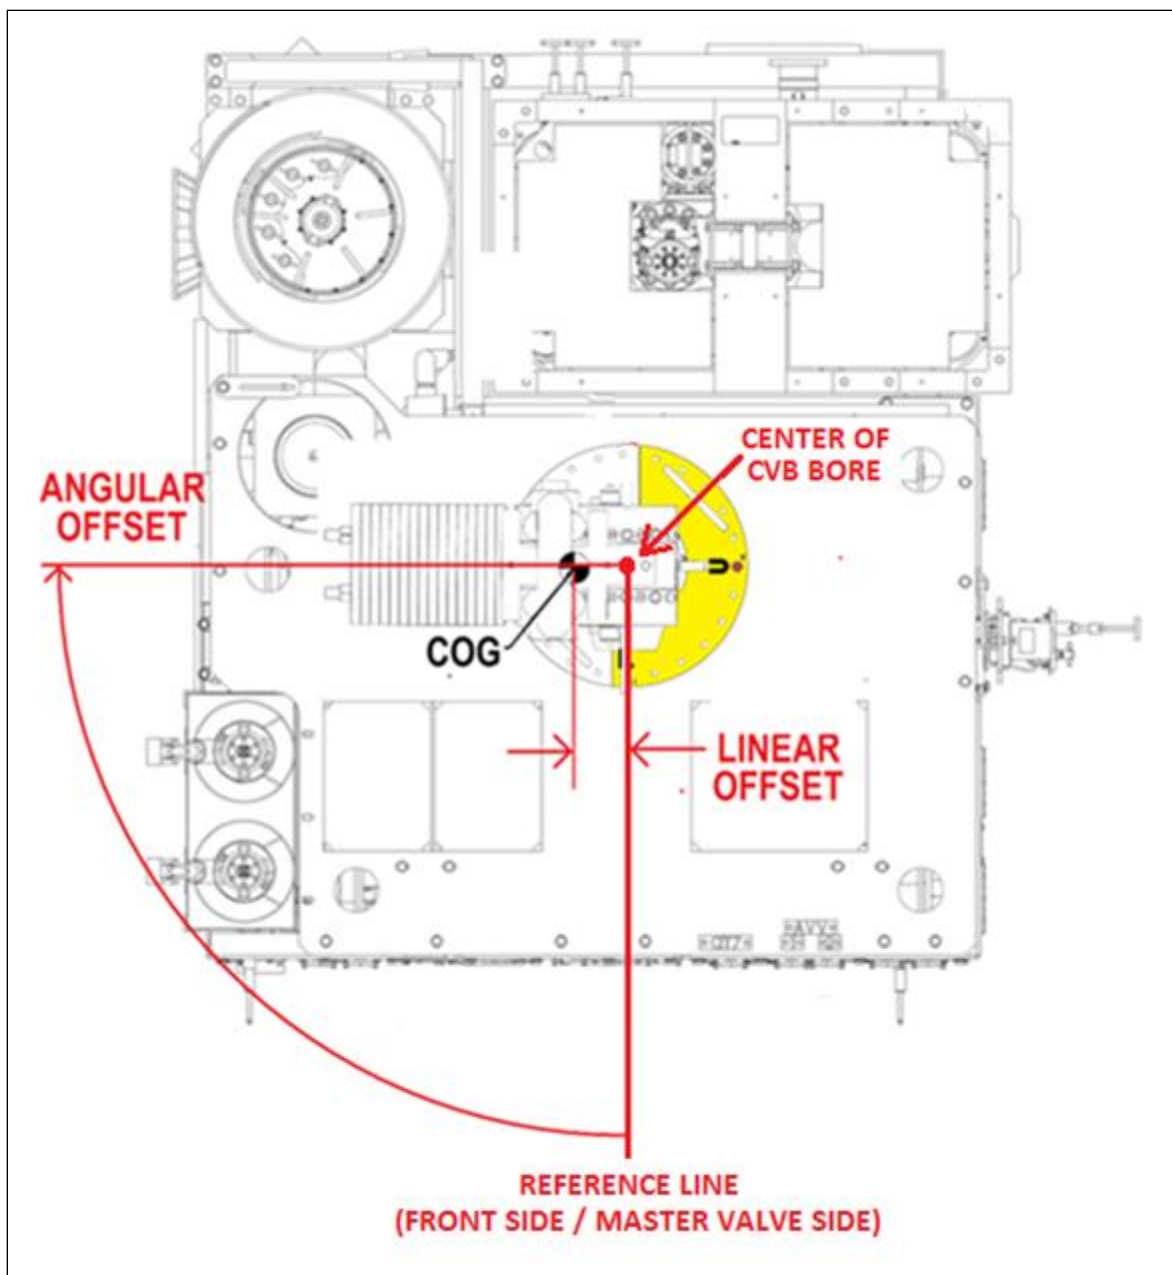

Figure 3: Top View of MTRT Installed in EVDT Tree (Reference Only)
1. Consult the drawing of the XT that is to be handled and locate the COG from the top view of the tree, as shown in Figure 3.
- See Figure 3.